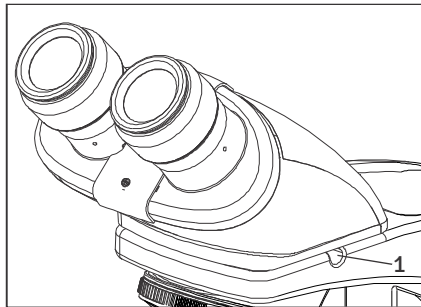

Fig. 8
1. Using Allen wrench 3mm (provided), loosen the Head Locking Screw (1) and remove the dust cover cap provided in dovetail Cavity as well as on observation head dovetail.
3. Tighten the Head Locking Screw (1) after positioning the Observation head as desired. See figure 8.